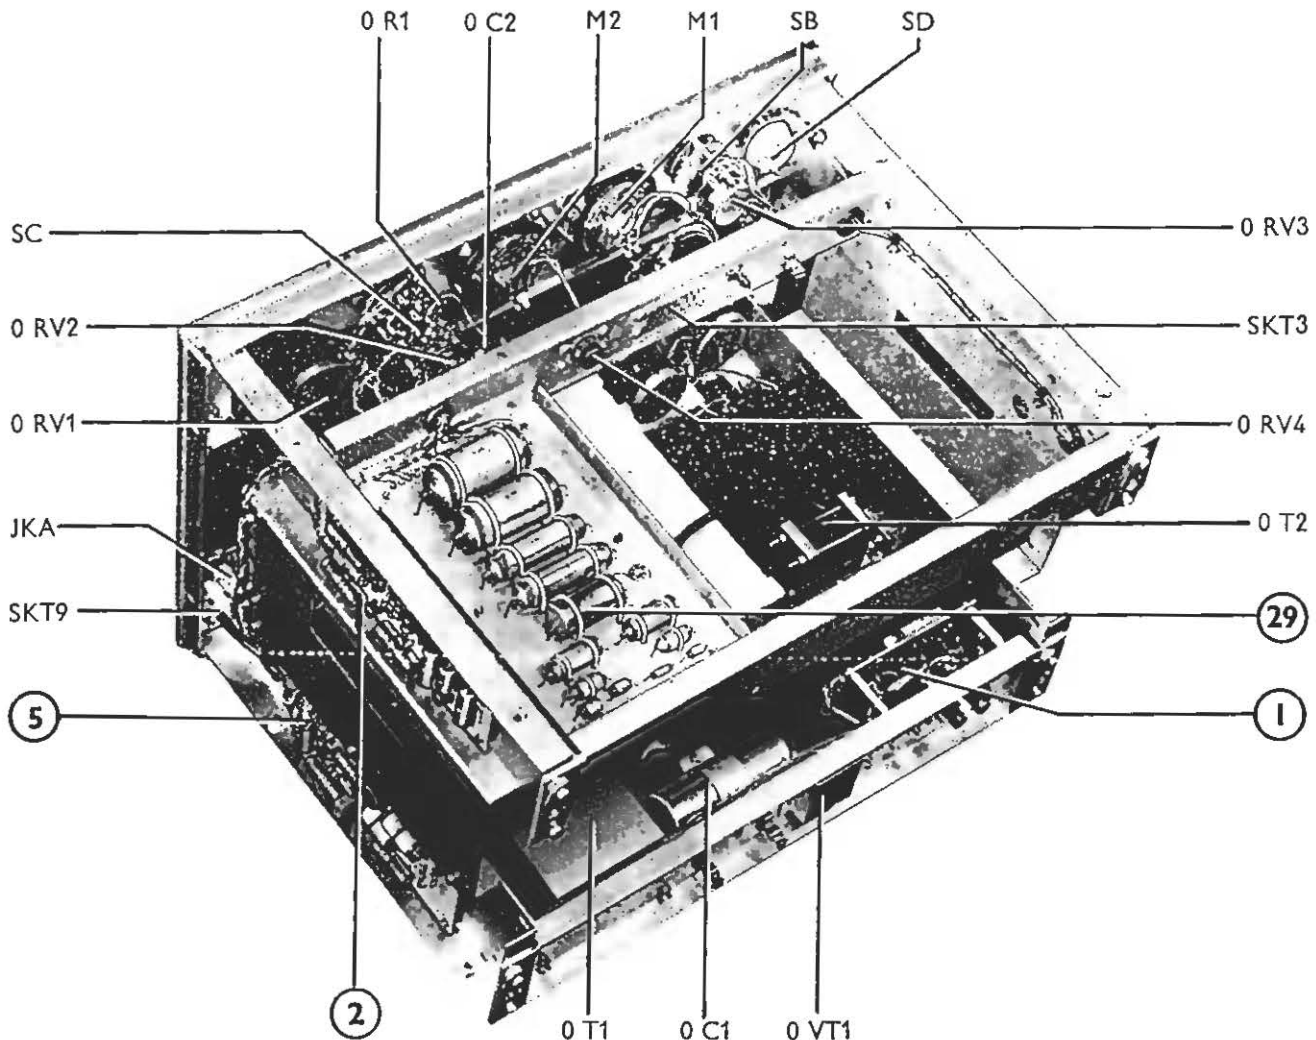
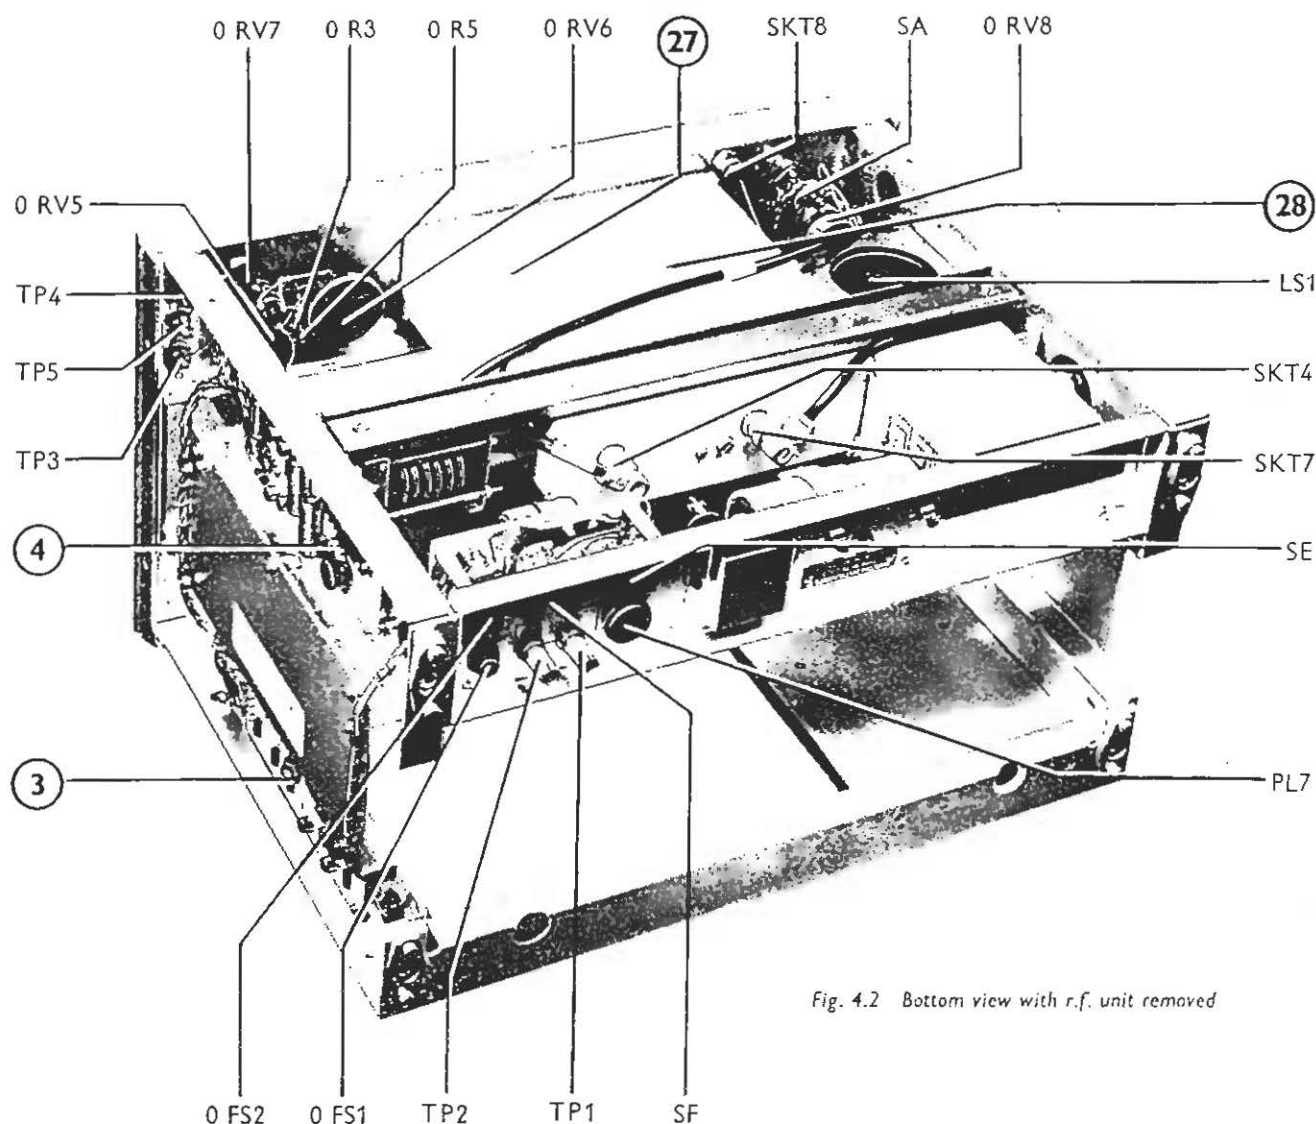

Fig. 4.1 Top view with r.f. unit removed
Fig. 4.2 Bottom view with r.f. unit removed
To remove the outer case of the instrument extract the four coin-slotted 2 BA screws at the rear and slide the instrument forward out of the case. With the case off the following boards are accessible, (1), (2), (3), (4), (5), (29); for the location of these boards and other components see Fig. 4.1 and Fig. 4.2.